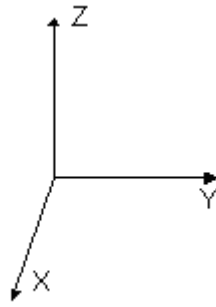

Figure 2-1. Measurement 1
- 1 Position the system to start. See Figure 2-1.